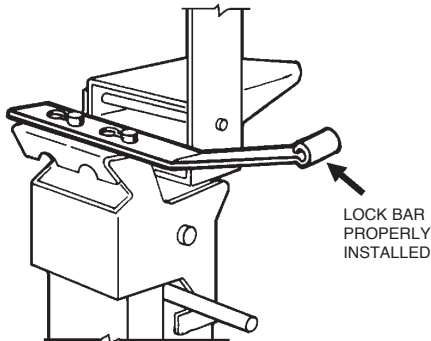
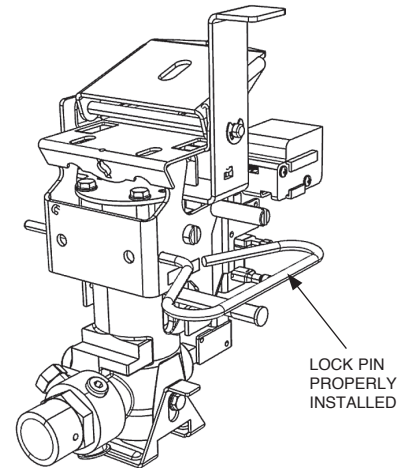

FIGURE 8-10
Figure 8-11
2. Insert the lock bar (Part No. 14985) or lock pin (Part No. 438031) on the cocked regulated release mechanism. See Figure 8-10 or Figure 8-11.